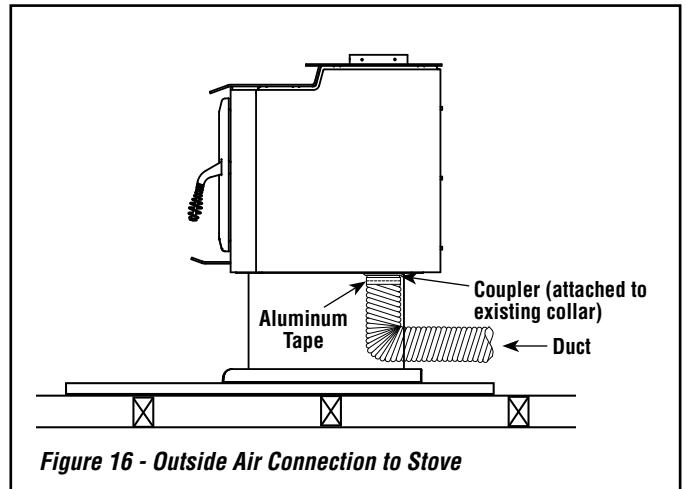

Figure 16 - Outside Air Connection to Stove
- Attach the duct to the coupler on stove (see **Figure 16**). Using the aluminium tape provided, wrap the tape around the joint between the flexible duct and the air inlet.